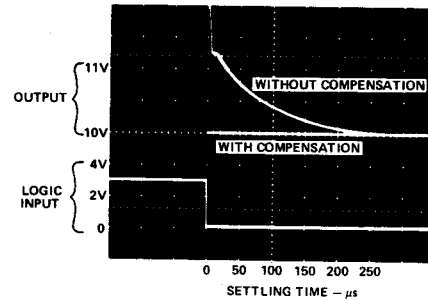
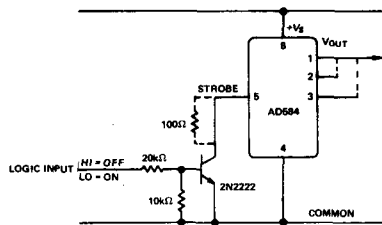

Figure 8b. Output Settling Characteristic
Figure 11. Use of the Strobe Terminal
and represents the true turn-on waveform after an extended period with the supplies off. The figure shows both the coarse and fine transient characteristics of the device; the total settling time to within  $\pm 1$  millivolt is about  $180\mu\text{s}$ , and there is no long thermal tail appearing after the point. Figure 8B demonstrates the settling characteristics using the strobe input (see Figure 11). Without compensation, the output of the AD584 typically settles within  $225\mu\text{s}$ . With a  $90\text{pF}$  capacitor across pins (5) and (3), critical damping is approximated, as shown in Figure 8B, with settling times  $< 5\mu\text{s}$ .
Figure 11 illustrates the strobe connection. A simple NPN switch can be used to translate a TTL logic signal into a strobe of the output. The AD584 operates normally when there is no current drawn from pin 5. Bringing this terminal low, to less than 200mV, will allow the output voltage to go to zero. In this mode the AD584 should not be required to source or sink current (unless a 0.7V residual output is permissible). If the AD584 is required to sink a transient current while strobed off, the strobe terminal input current should be limited by a 100Ω resistor as shown in Figure 11.